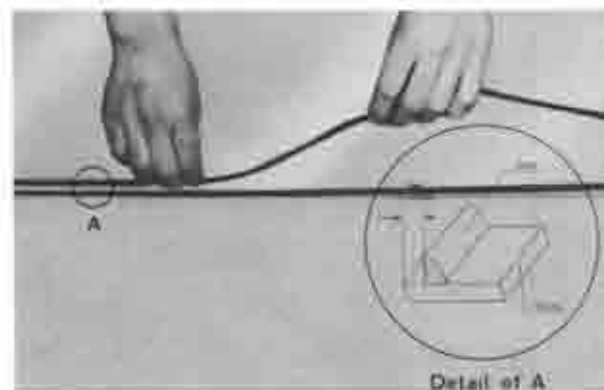

Fig. 14-30 Bonding dam
2. Clean the glass thoroughly and bond the dam with bonding agent parallel to the edge of the glass at a position 7 mm (0.28 in) away from it. Bond the dam in the direction shown in Fig. 14-30.